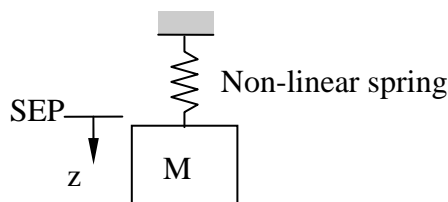

Figure 1
- Find the linear equation of motion for small oscillations about the static equilibrium point for the spring mass systems shown in Figure 1. The mass weights 10 lbs. Write the equation of motion in terms of the coordinate z where z is the displacement from the static equilibrium position. What is the natural frequency for small vibrations about the static equilibrium point?